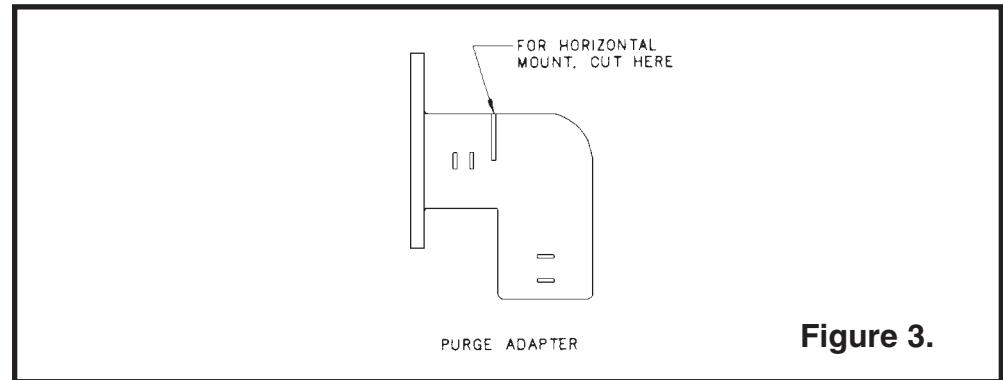

Figure 3.
3. Fasten the purge adapter to the purge port using (3) self-tapping #10-24 cap screws. Torque to 60 inch lbs. If unit is to be vertically mounted, use adapter as is. If unit is horizontally mounted, cut off the 90° portion of the elbow at the notch (see figure 3).